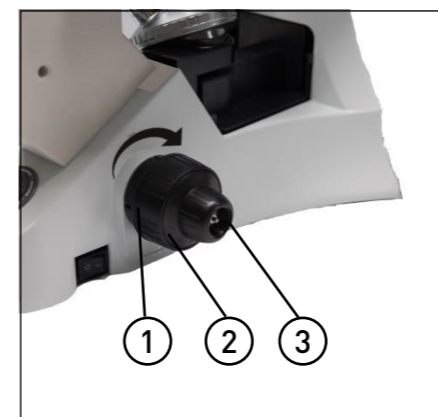

FIGURE 18
4.1.3 Adjusting the tension adjustment collar (Fig. 18)
If the nosepiece drops automatically, or the specimen defocuses despite focusing with the fine focus knob (3), it means the coarse focus knob is too loose. Turn it in the direction of the arrow shown in figure 18.